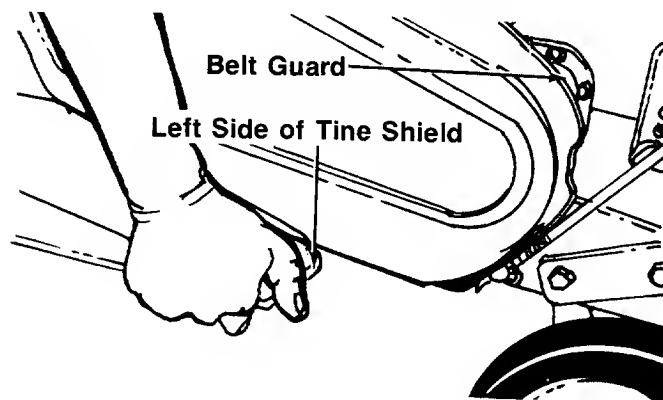

FIGURE 27.
2. Press down on the left side of the tine shield and slip off the belt guard. See figure 27.